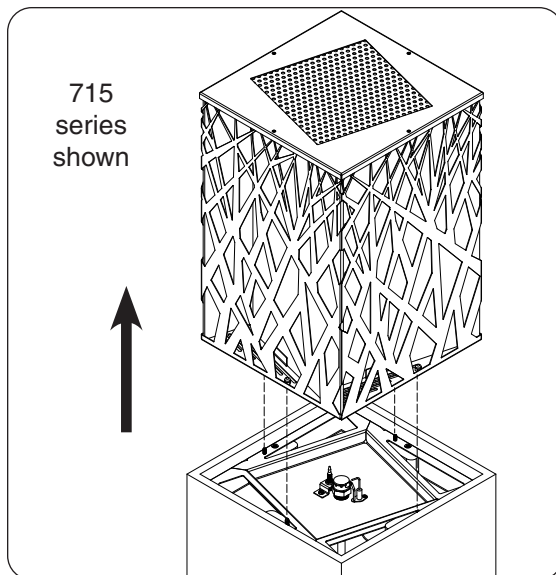
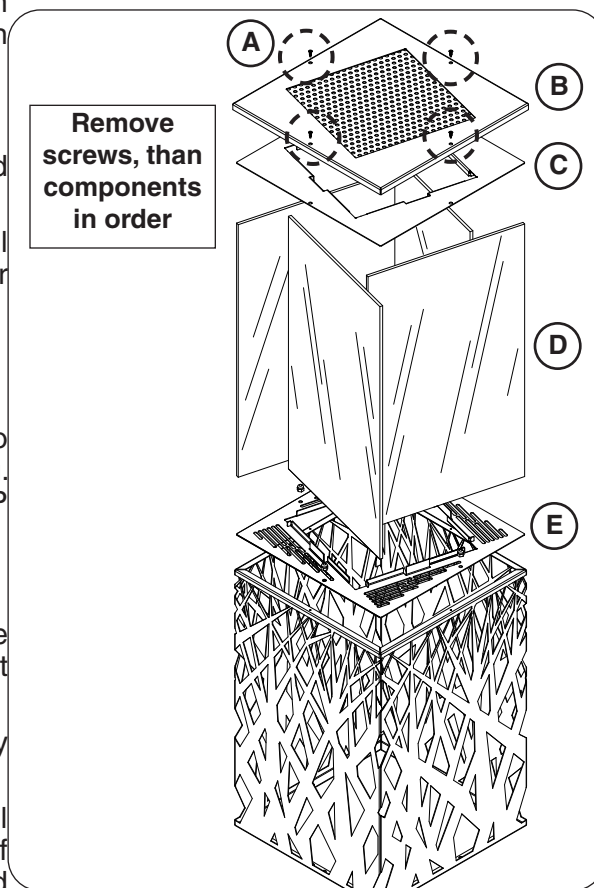

Fig. 28-1 Remove top assembly
Fig. 28-2 Disassemble top assembly
1. Using a $\frac{3}{8}$ " socket driver, remove the four acorn lock nuts at the base of the top assembly, then **CAREFULLY** remove the assembly and set it on a flat and clean work area (see Fig. 28-1).
2. Using a Phillips screwdriver, remove the four screws on the top of the assembly (see fig. 28-2, A).
3. **CAREFULLY** lift up and remove the components, in order, as shown in Fig. 28-2, B - E. Set on the flat clean work area and clean per the instructions below.
1. **CAREFULLY** reverse the disassembly steps above to reassemble and reinstall the top assembly. Refer to Fig. 28-2, Fig. 28-1, and the LANTERN INSTALLATION - TOP ASSEMBLY section as needed.